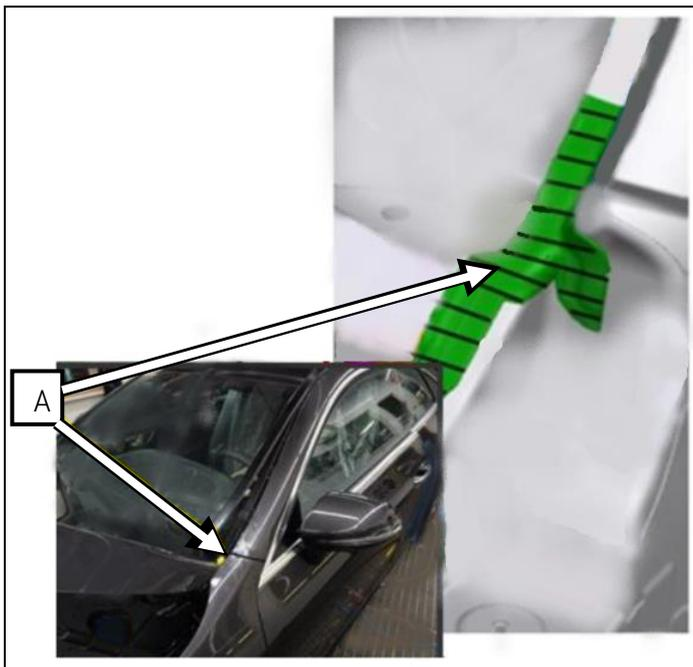

Figure 1
2. Extensively clean area (A, figure 1) of seam seal with compressed-air gun.
3. Extensively clean area (A, figure 1) of seam seal with cleaner.
4. Apply transparent seam seal extensively to area (A, figure 1).